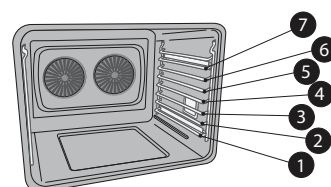

Figure 19: Rack positions
5. Place food in the oven after 2 minutes to rack position recommendations (Table 3) and (Figure 19). Be sure to place pan with the meat directly under the broil element and close the oven door during broiling.